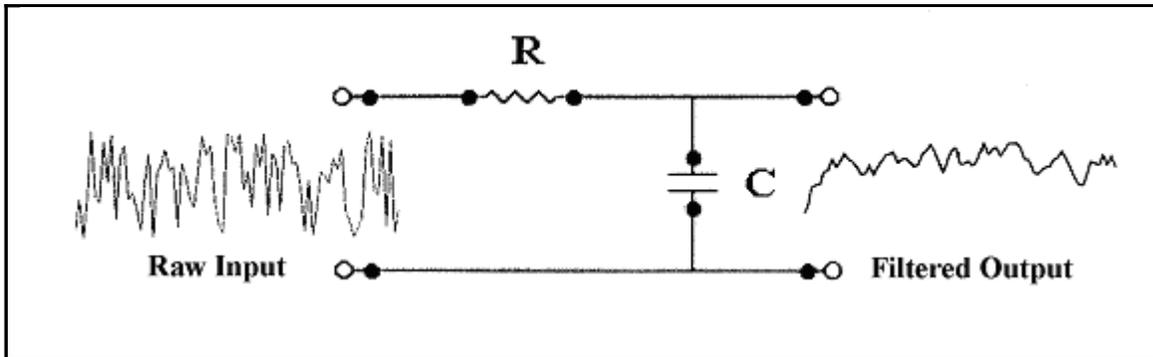

Figure 2
being used to control a process where the process must respond to the over all trend rather than short term spikes. Analogue signals are easy to filter by using a Resistor/Capacitor (RC) Low Pass Filter, such as the one shown in Figure 2.